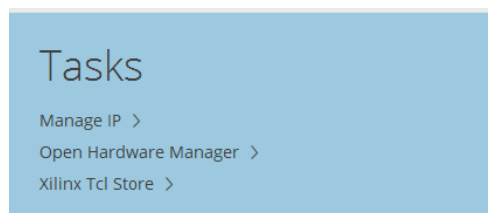

Figure 1: Vivado View
4. After installation, launch Vivado. Click “Open Hardware Manager” in Vivado WebPACK under “Tasks” as shown in Figure 1.